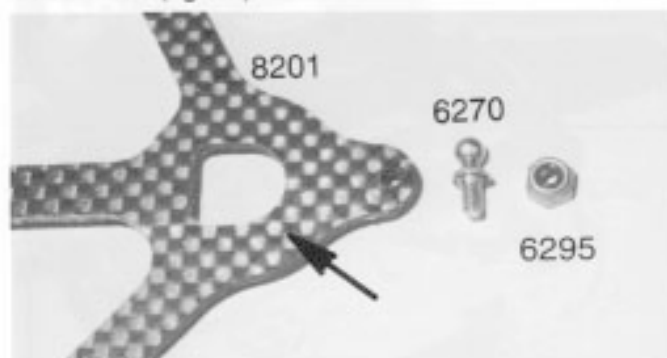
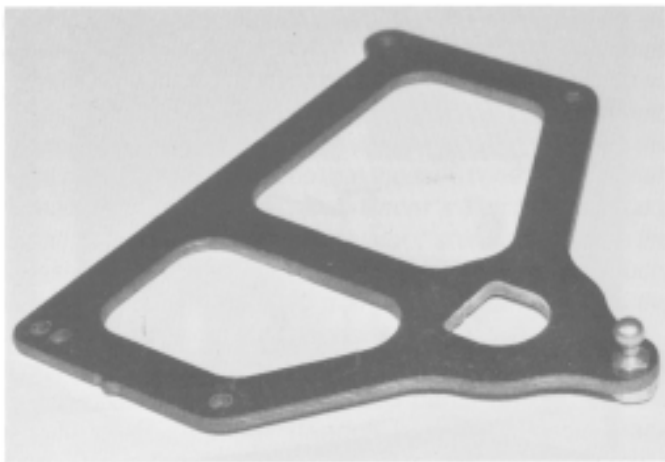

Fig. 32
Fig. 33
□ **Figs. 32 & 33** Back in bag 5 you will find the #8201 graphite upper brace. The arrow in fig. 32 is pointing to the area where the dampner washers will ride. **Racer's Tip:** The Team drivers will take some #600 grit wet or dry sandpaper and sand all of the edges and surfaces smooth where the dampner washers will ride. Do this for both the top and bottom sides of the upper brace. This will help the dampner washers slide freely over the upper brace. **WARNING!** Remember to follow the earlier instructions and precautions, on page four, when working with graphite material.
Open bag 4 and remove one #6270 steel ball end and one #6295 4-40 plain nut (fig. 32). We are going to install the steel ball end on top of the graphite upper brace as shown in the photo. Now thread on the plain nut on the bottom side (fig. 33).